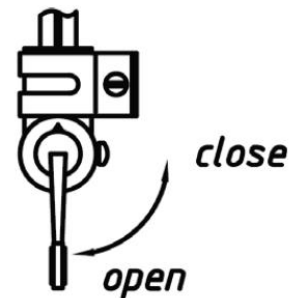

Fig 6
(1) Fueling. the gasoline engine is of single cylinder ,two stroke type ,fuel is the mixture of gasoline and oil , Mixture ratio: gasoline -40 : 2 cycle Oil-1.
(2)Opening the carburetor (see Fig 6) turning the handle upright means "on", while turning it an angle of 90° means "off".